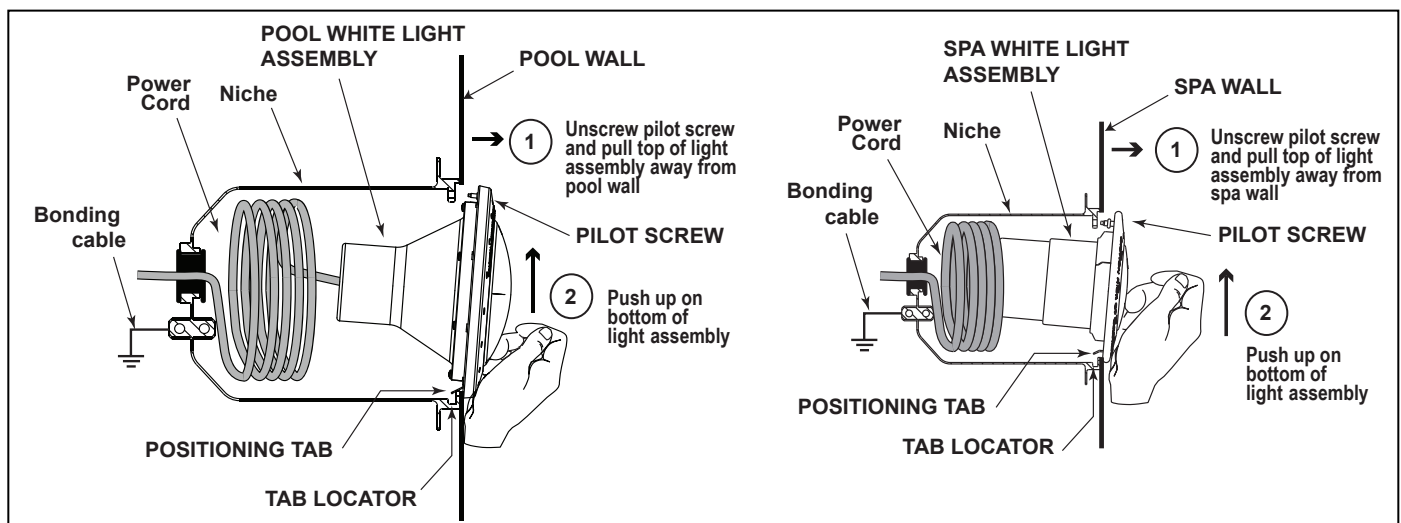

Figure 1. Removing the Pool and Spa White Light Assembly for Lamp Replacement
3. To remove the light assembly, unscrew the special pilot screw at the top of the face ring, remove light assembly from niche and gently place assembly on the deck. It is not necessary to drain down the pool or spa. See Figure 1.